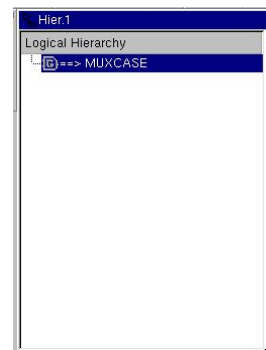

Figure 6: Select MUXCASE.
17. In the *Design Vision* window, select **MUXCASE** in the *Logical Hierarchy* sub-window (Fig. 6).